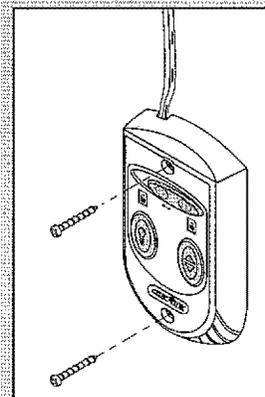

FIG. 3-4 Mounting Wall Console.
- Fasten wall console to wall with 2 screws (provided) (Fig. 3-4).